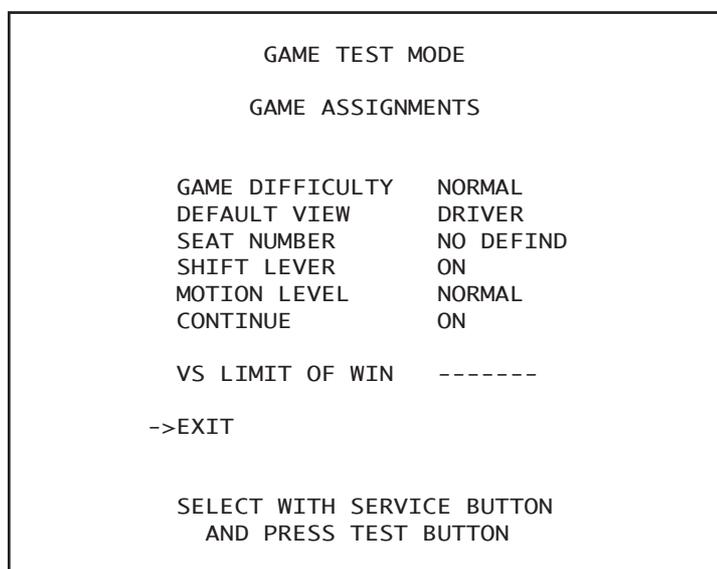

FIG. 8. 3
- ① Turn off the power of Cycraft cabinet. From the viewpoint of protecting, disconnect the power cord.
- ② Wire the communication cables exactly according to the illustration below. Always connect the TX of one game board to the RX of the other, and thereby make a loop of the communication cable. (Fig. 8. 2)